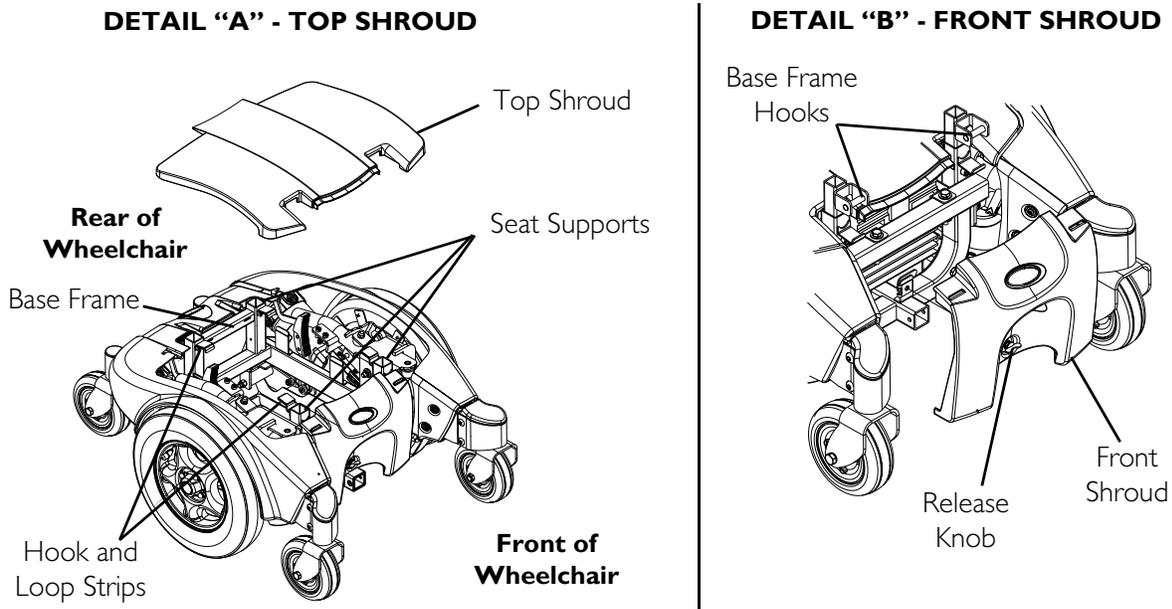

FIGURE 10.1 Removing/Installing the Shrouds
NOTE: For this procedure, refer to FIGURE 10.1 on page 67.
- Top Shroud - Lift up on rear edge of top shroud to release the four hook and loop strips that secure the top shroud to the base frame as shown in Detail "A" of FIGURE 10.1.
- Front Shroud - Turn release knob ¼-turn to the unlocked position and lift up to remove front shroud from base frame hooks as shown in Detail "B" in FIGURE 10.1.
- Top Shroud - Position top shroud on to the base frame and gently press down on top shroud to secure the four hook and loop strips that secure the top shroud to the base frame as shown in Detail "A" of FIGURE 10.1.
- Front Shroud - Position front shroud onto the two base frame hooks. Turn release knob ¼-turn to the locked position as shown in Detail "B" of FIGURE 10.1.